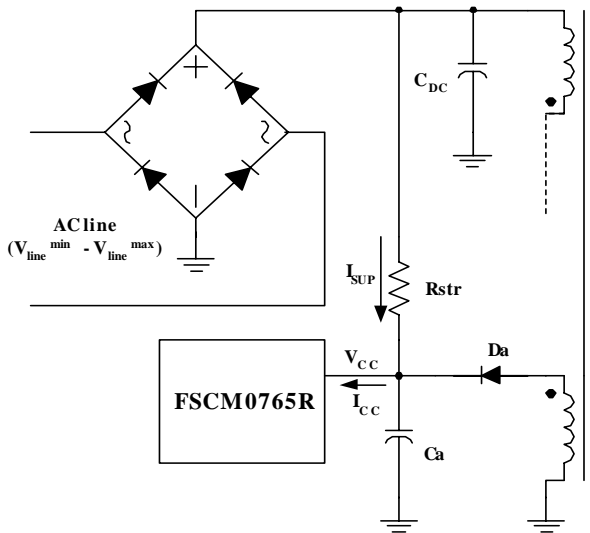
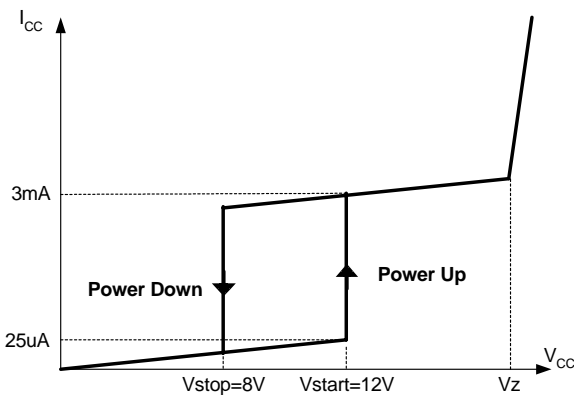

Figure 16. Startup Circuit
Figure 17. Relation Between Operating Supply Current and Vcc Voltage
**1. Startup:** Figure 16 shows the typical startup circuit and transformer auxiliary winding for the FSCM0765R application. Before the FSCM0765R begins switching, it consumes only startup current (typically 25uA) and the current supplied from the DC link supply current consumed by the FPS (Icc), and charges the external capacitor (Ca) that is connected to the Vcc pin. When Vcc reaches start voltage of 12V (VSTART), the FSCM0765R begins switching, and the current consumed by FSCM0765R increases to 3mA. Then, the FSCM0765R continues its normal switching operation and the power required for this device is supplied from the transformer auxiliary winding, unless Vcc drops below the stop voltage of 8V (VSTOP). To guarantee the stable operation of the control IC, Vcc has under voltage lockout (UVLO) with 4V hysteresis. Figure 17 shows the relation between the current consumed by the FPS (Icc) and the supply voltage (Vcc).